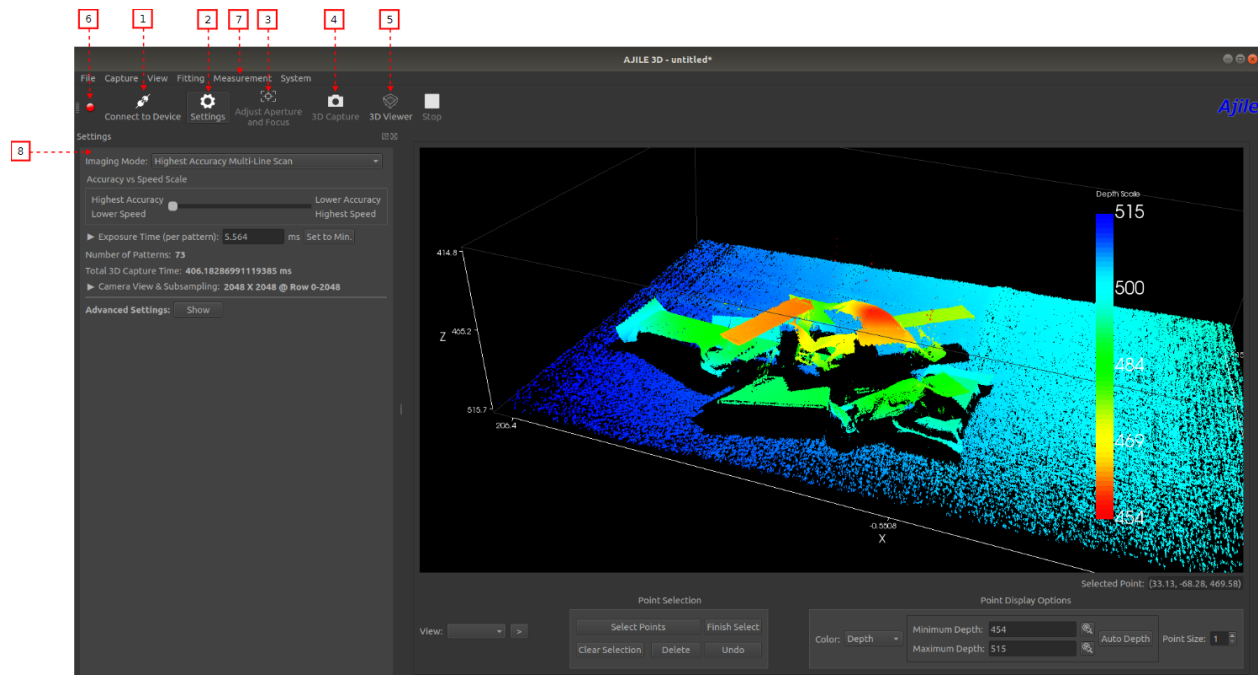

Figure 2.1: Main components of the Ajile 3D GUI.
The main components of the Ajile 3D GUI are shown in Figure 2.1. The top toolbar of the GUI controls the overall flow of capturing high quality 3D images. The steps to go from first opening the Ajile 3D GUI to having available a 3D point cloud to manipulate is as follows:
1. Connect to the DepthScan by clicking on the Connect button (Figure 2.1, item 1).
2. Open the imaging settings by clicking on the Settings button (Figure 2.1, item 2), then adjust imaging settings (exposure time, etc.) in the Settings panel (Figure 2.1, item 8).
3. Adjust the camera and projector aperture and focus by clicking on the Adjust Aperture and Focus button (Figure 2.1, item 3).
4. Start the 3D capture by clicking on the 3D Capture button (Figure 2.1, item 4).
5. The integrated 3D viewer will automatically appear, displaying the captured 3D point cloud for viewing and analysis. Click on the 3D Viewer button (Figure 2.1, item 5) at any time to open the 3D viewer.
6. Perform 3D fitting, alignment, and measurement tasks on the 3D image with operations available in the menu bar (Figure 2.1, item 7), or save the 3D image to one of the available point cloud formats with the File → Export → Point Cloud menu.
To connect to the device, click on the 'Connect' button in the GUI (Figure 2.1, item 1). A dialog box will pop up indicating that we are trying to connect, and the status indicator light in the top left corner of the GUI (Figure 2.1, item 6) will change color from red (disconnected) to yellow (connecting). When it is finished, the dialog box will disappear, and the 'Connect' button will stay pressed down, and the status indicator lighting will change color to green indicating that we are connected. If an error message appears indicating that the connection failed, check the device power, USB 3 connection, and check that all drivers are properly installed with the Ajile 3D Software installer. See the troubleshooting section or contact Ajile support if you continue to have problems connecting.
The imaging settings can be displayed by clicking on the Settings button (Figure 2.1, item 2). The first imaging setting that can be adjusted is the imaging mode. This is a drop down menu which shows the different imaging modes available by default in the DepthScan. These imaging modes trade off between accuracy and speed by adjusting the number of structured light images used per scan, and the camera sensor resolution. In general, more patterns and higher camera sensor resolution means higher 3D measurement accuracy, at the cost of lower speed. The default imaging mode is the highest accuracy mode which uses 73 structured light patterns at full resolution. This imaging mode is recommended for most applications since it gives the best accuracy, and the speed is still relatively high with a total 3D capture time of 406 ms using the default exposure time settings.
To enter setup mode so that we can adjust the camera and projector, click on the 'Adjust Aperture and Focus' button (Figure 2.1, item 3). This will cause the projector to project line patterns onto the scene, and a live video stream from the camera to appear in the GUI. Additional information will also be displayed in the GUI which indicates the number of successfully located points in the scene and the quality of the focus with the current exposure time, aperture and focus settings.
For very dark or very bright scenes, it may be necessary to also adjust the camera exposure time. This can be done by changing the Exposure Time value, in milliseconds, shown in the GUI settings (Figure 2.1, item 8), then clicking 'Stop' followed by clicking 'Adjust Aperture and Focus' to restart the camera so that the new setting takes effect.
A final note on the aperture: if longer exposure times are not a problem for your application, it is recommended to first adjust exposure times when not enough light is reaching the camera sensor, and keep the aperture small to have better depth of field. This is done by changing the Exposure Time value in the Settings panel, which is highlighted in Figure 2.1. The exposure time is in milliseconds in the GUI, so in the case of Figure 2.1 it is set to 5.5 ms.